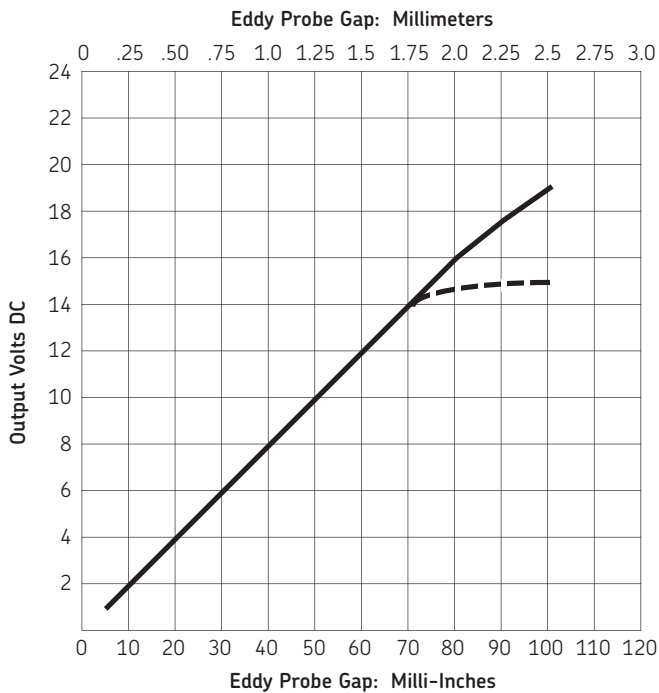

Figure 6-5. Typical response curve.
2. Plot a straight-line graph through the recorded points. A probe that is in calibration should have a graph with a 200 mV/mil (8 mV/ μm) slope. Each volt equals five milli-inches (125 μm), as shown in Figure 6-5.